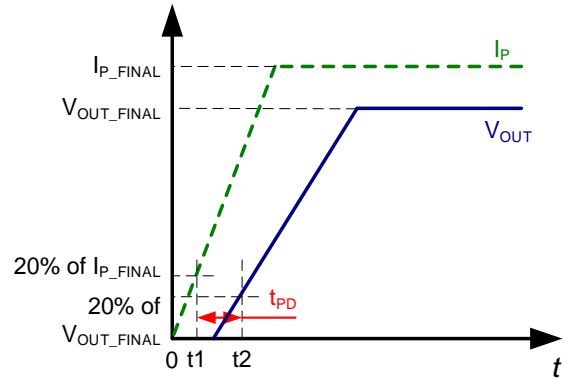

**Figure 5: Power-On Time ( $t_{PO}$ )**
2.  $t2$ :  $V_{OUT}$  settles to 90% of its final value under an applied primary current (see Figure 5).